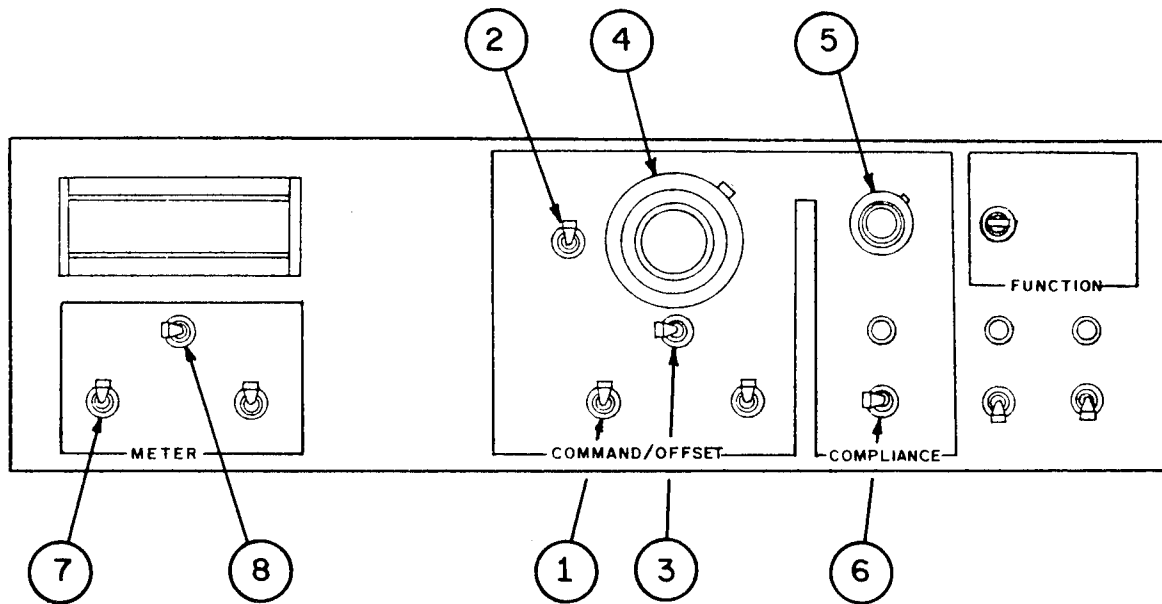

Figure 63. Example of Front Panel Settings
e. To perform a routine operation in the AMPLIFIER mode, given a random gain of 100 V/V, set the controls as follows (see Figure 63):